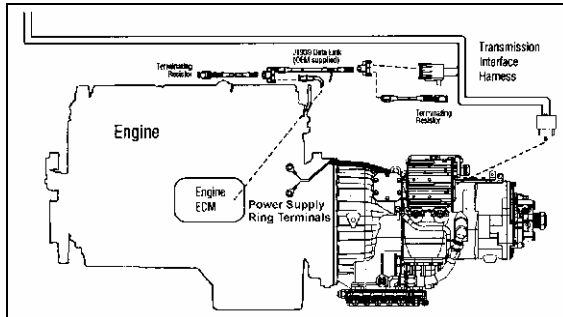

FIGURE 15: EATON TRANSMISSION CONNECTIONS 07066
- Disconnect main power supply ring terminals and transmission interface harness (Fig. 15).